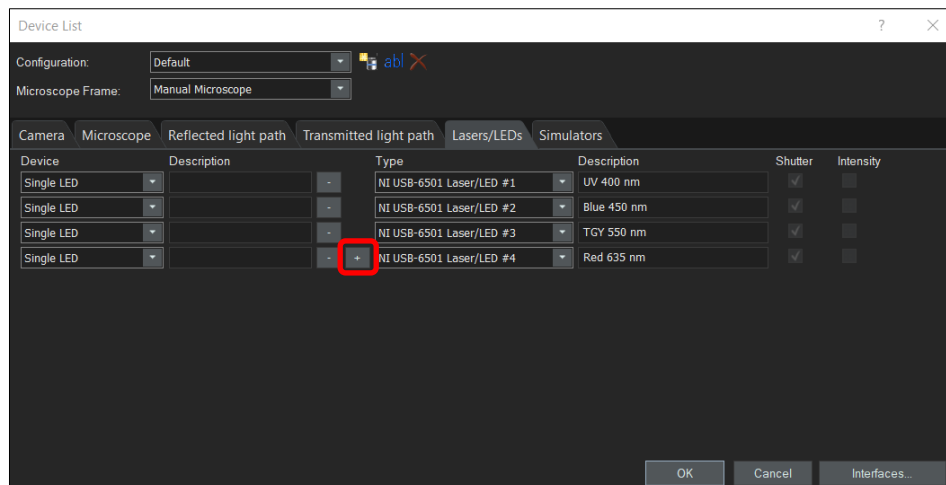

Figure 4: How to populate the Device List for the pE-400^{max}. Add another row by clicking '+' (red box)
3. Add the LEDs to be controlled using the pE-6501. From left to right in Figure 4: